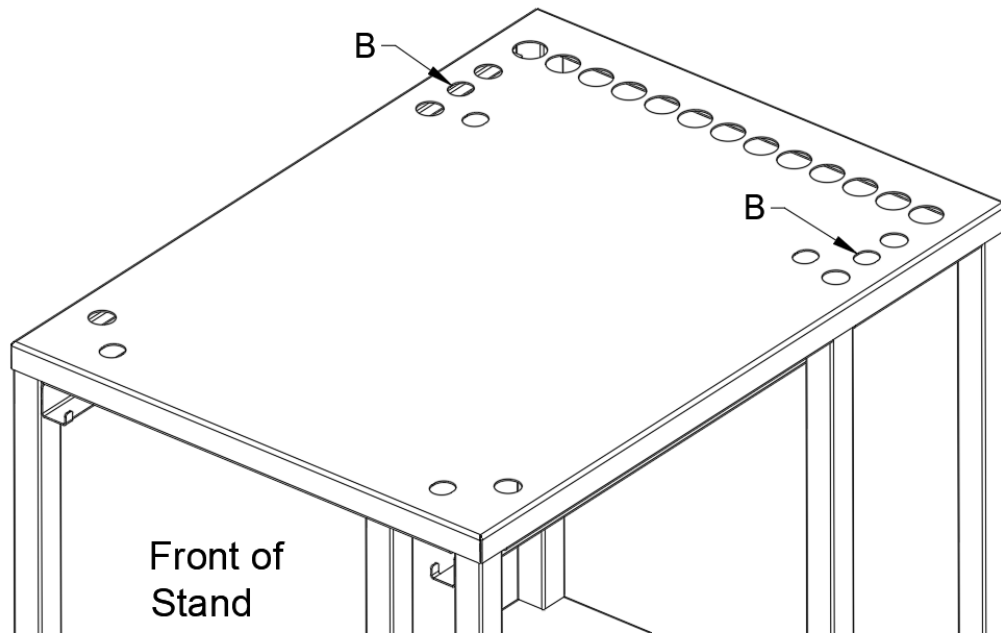
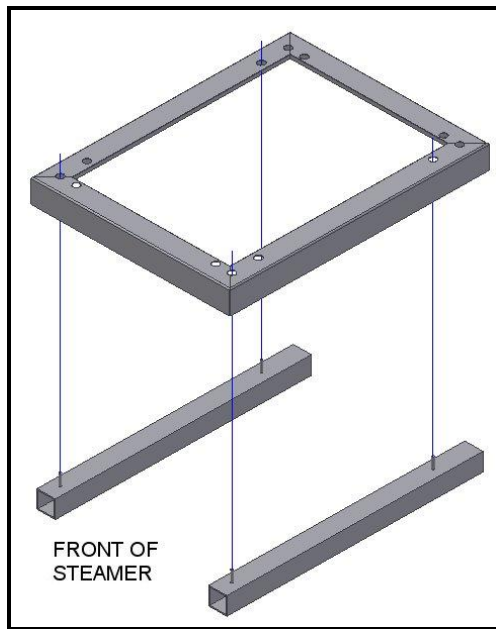
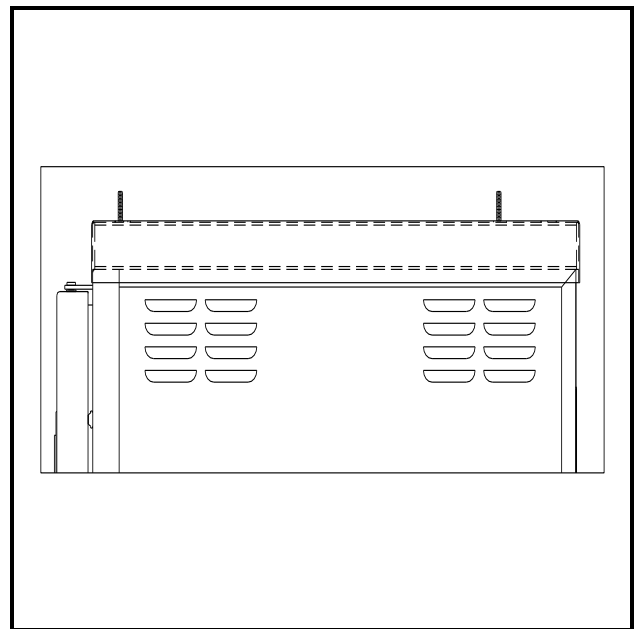
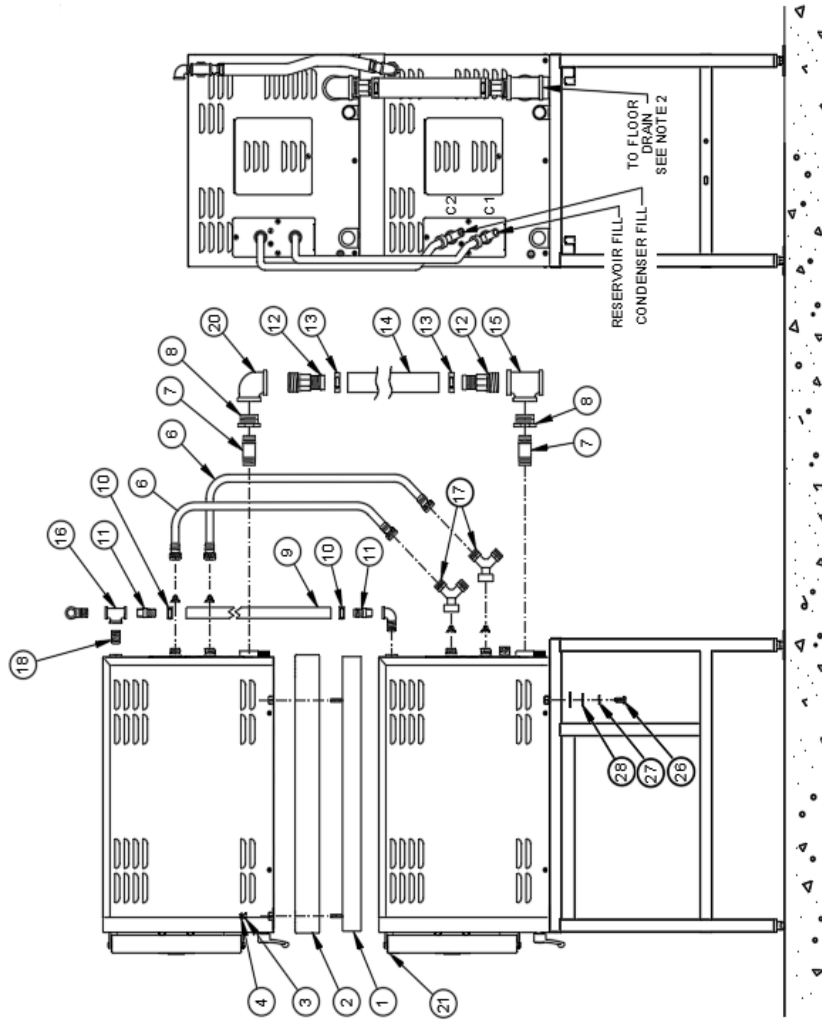

Figure 1
Figure 2
Figure 3
Figure 5
2. Set lower steamer directly on stand as shown in Figure 5 (4-inch legs provided with steamer are not used when installing SteamChef™ steamers on a stand). Align steamer so that rear mounting bolts will come up through holes marked “B” in Figure 1 below.
3. Secure lower steamer to stand using 2 sets of bolts and washers provided as shown in Figure 5 (Items 3, 4, and 5).
5. Install stacking spacer side supports and retainer. Set studded side supports (Figure 5, Item 6) on top of lower unit (see Figure 2). End of support with nearer stud must be toward front of steamer. Set retainer (Figure 5, Item 7) over side supports. Side support studs will come up through corresponding holes in retainer and lower edges of retainer will extend over top of steamer (see Figure 3).
8. Secure upper unit to stacking spacer using two sets of 1/4" flat washers and locknuts (Items 8 and 9 in Figure 5) installed on the front studs.
9. Attach drain fittings as shown in Figure 5 (Items 10 - 16). Use a suitable pipe thread sealant or Teflon tape (not provided) on all threaded connections.
10. Check length of drain hose (Figure 5, Item 17) and shorten if necessary. Place worm drive clamps (Figure 5, Item 18) over hose and push hose onto upper hose fitting. Slightly rotate lower tee and hose fitting counter-clockwise until lower end of hose can start onto fitting. Slide hose fully onto fitting by rotating tee and fitting back to their original vertical position. Secure hose to fittings with worm drive clamps.
11. Attach inlet water trains for reservoir and condenser as shown in Figure 5 (Items 19 – 23). Use a suitable pipe thread sealant or Teflon tape on all NPT threaded connections. Use a suitable plain washer or strainer washer at all Garden Hose threaded connections (DO NOT USE PIPE THREAD SEALANT OR TEFLON TAPE ON GARDEN HOSE THREADED CONNECTIONS).
Note: Each SteamChef™ steamer is supplied with strainer washers (Figure 5, Item 19) for use on the water inlets. THESE STRAINER WASHERS MUST BE USED ON THE STEAMER WATER INLET CONNECTIONS.